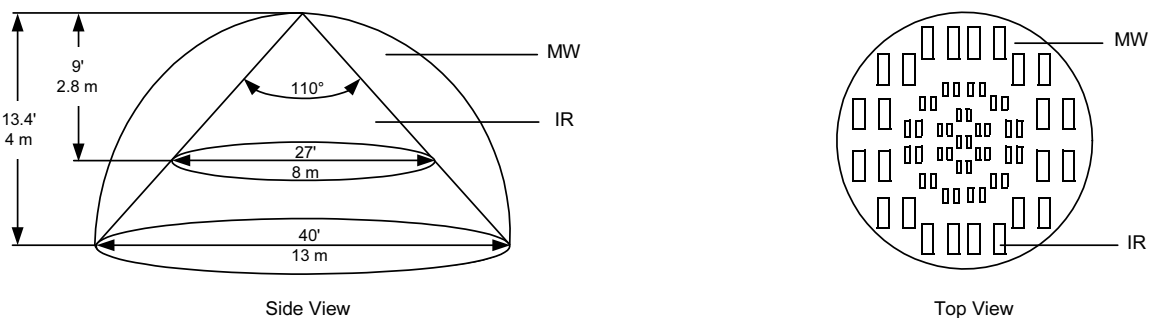

Figure 1. Coverage
- Recommended mounting height, that allows 13m (40ft) detection diameter, is approximately 4m (13'4") (See figure 1).